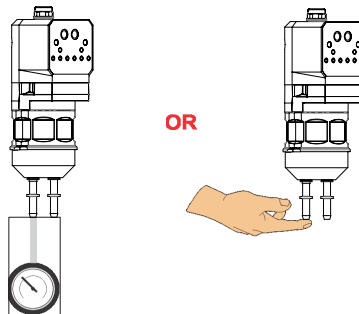

Figure 11 Vacuum Check Options
3. Disconnect the powder tubing from the pump. Connect a vacuum gauge to the suction fitting or place your finger over the fitting as shown in Figure 11.